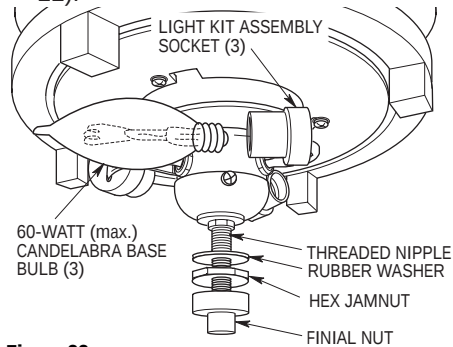

Figure 22
- 4. Screw three 60-watt (maximum) candelabra base bulbs (not included) in the light kit assembly sockets (Figure 22).
- 5. Unscrew the finial nut, hex jamnut, and rubber lockwasher from the light kit threaded nipple (Figure 22). Retain the lockwasher, hex jamnut and finial nut for future installation.